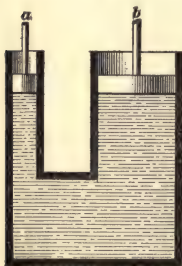

FIG. 9.
18. In Fig. 9, let the area of the piston a be 1 square inch; of b , 40 square inches. According to Pascal's law, 1 pound placed on a will balance 40 pounds placed on b .